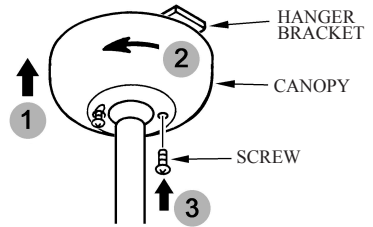

FIG.9
4. Mount the canopy on the two screws in the hanger bracket and twist the canopy, so the screw heads hold the canopy in place. (see Fig.9)